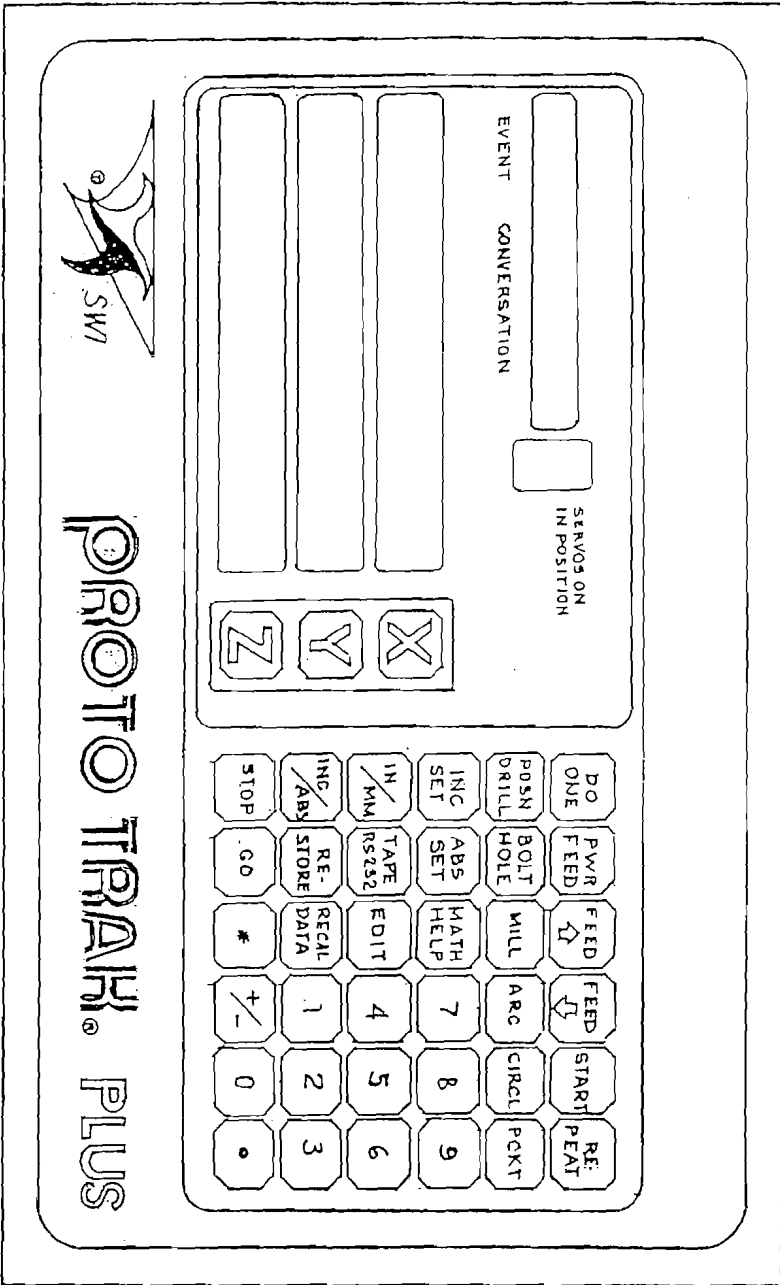

FIGURE 1
2.1 Keyboard (Figure 1)
2.2 Displays (Figure 1)